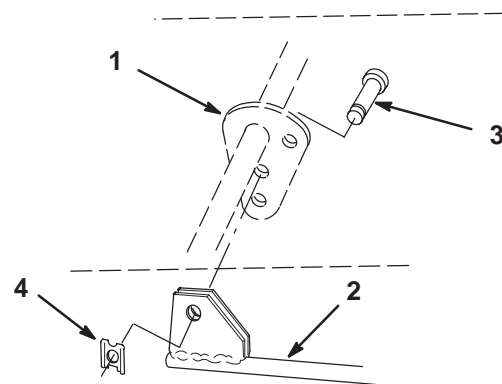

Figure 26
9. Disconnect the snowthrower lift rod from the attachment lift plate by removing the clip from the clevis pin (Fig. 26).